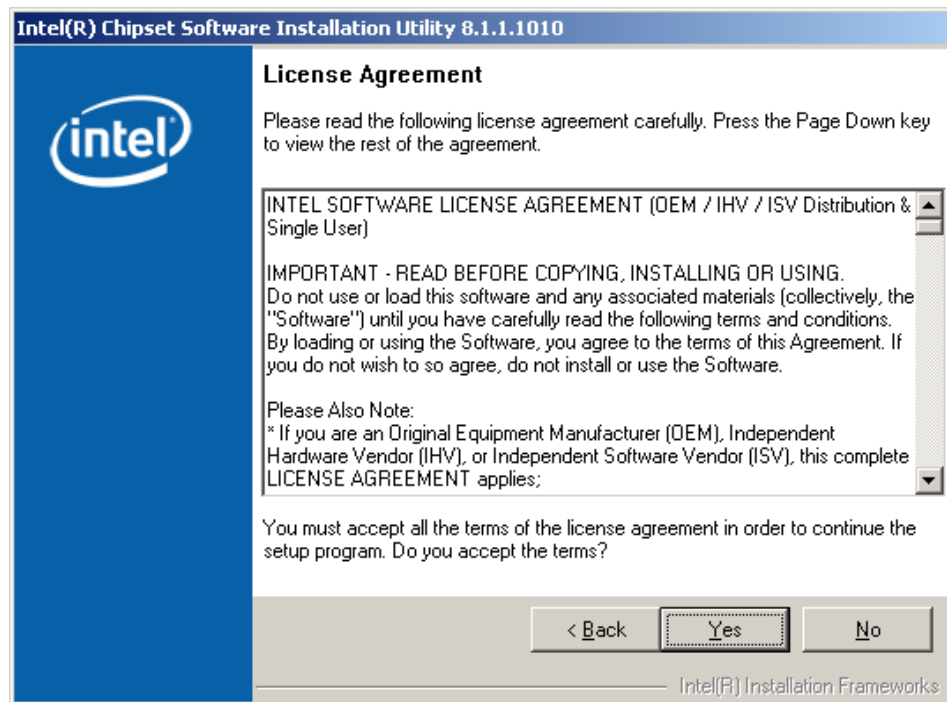

Figure 7-5: Chipset Driver Installation License Agreement
- Step 6:** The license agreement in **Figure 7-5** appears.